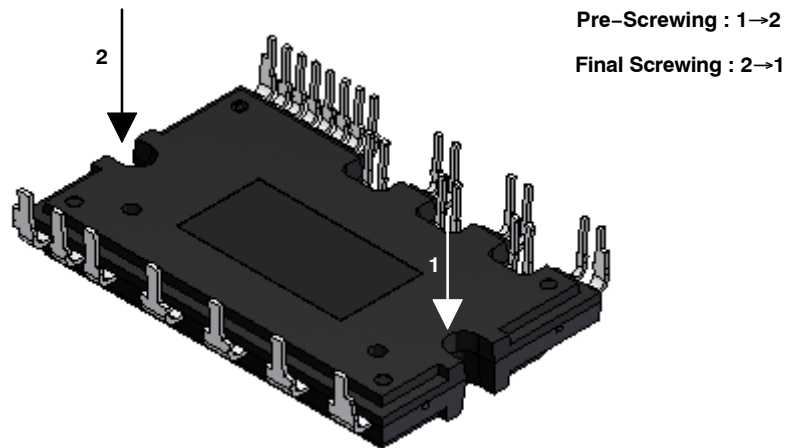

Figure 9. Mounting Screws Torque Order
12. Avoid one-sided tightening stress. Figure 9 shows the recommended torque order for mounting screws. Uneven mounting can cause the DBC substrate of package to be damaged. The pre-screwing torque is set to 20 ~ 30% of maximum torque rating.